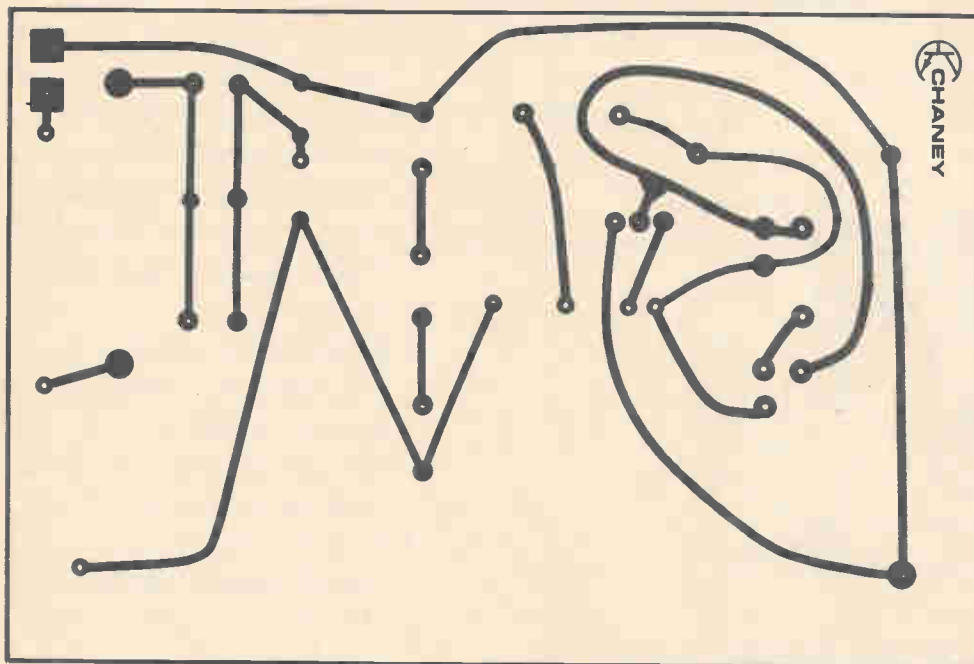

Figure 3. You can use this full-size foil pattern to etch your own printed-circuit board, or to check your solder traces.
7. Install strobe tube FT1 by first soldering a bare wire post (use left-over leads cut off from C7) into the anode (+) and cathode (-) mounting holes on the PC board. **Do not bend the lead on FT1 as that will crack the tube seal and release the xenon gas (causing permanent damage to the tube).** After the posts have been soldered in, form a loop to hold the leads on FT1 (Figure 3). After you have made the loops around the leads of FT1, you may now solder in the tube. The next step is to connect a wire from the top of trigger